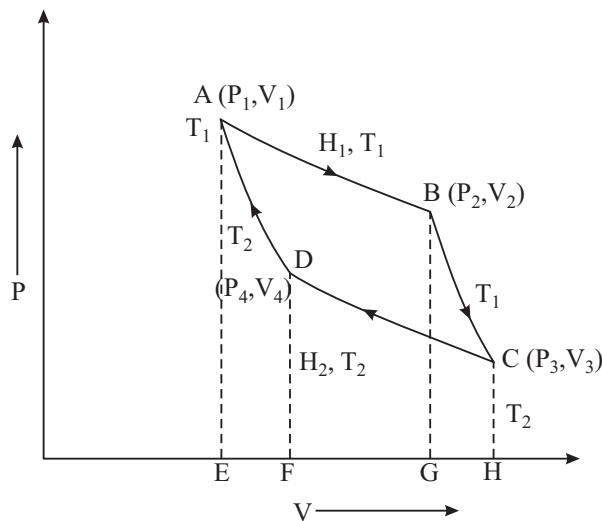
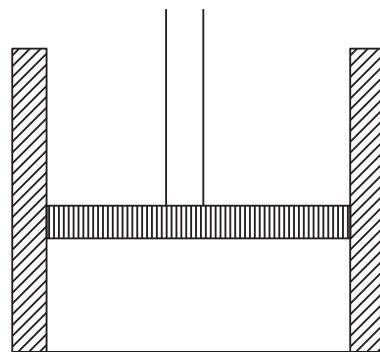

Fig. 11.4 : Indicator diagram of Carnot cycle
Fig. 11.5 : The cylinder with working substance
In Carnot cycle, the working substance is subjected to four operations : (a) isothermal expansion, (b) adiabatic expansion, (c) isothermal compression and (d) adiabatic compression. Such a cycle is represented on the P-V diagram in Fig. 11.4. To describe four operations of Carnot's cycle, let us fill one gram. mol. of the working substance in the cylinder (Fig. 11.5). Original condition of the substance is represented by point A on the indicator diagram. At this point, the substance is at temperature T_1 , pressure P_1 and volume V_1 .
- (a) **Isothermal expansion :** The cylinder is put in thermal contact with the source and allowed to expand. The volume of the working substance increases to V_2 . Thus working substance does work in raising the piston. In this way, the temperature of the working substance would tend to fall. But it is in thermal contact with the source. So it will absorb a quantity of heat H_1 from the source at temperature T_1 . This is represented by the point B. At B, the values of pressure and volume are P_2 and V_2 respectively. On the indicator diagram (Fig. 11.4), you see that in going from A to B, temperature of the system remains constant and working substance expands. We call it **isothermal expansion process**. H_1 is the amount of heat absorbed in the isothermal expansion process. Then, in accordance with the first law of thermodynamics, H_1 will be equal to the external work done by the gas during isothermal expansion from A to B at temperature T_1 . Suppose W_1 is the external work done by the gas during isothermal expansion AB. Then it will be equal to the area ABGEA. Hence
- (c) **Isothermal compression :** Remove the cylinder from the non-conducting stand and place it on the sink at temperature T_2 . In order to compress the gas slowly, increase the load (pressure) on the piston until its pressure and volume become P_4 and V_4 , respectively. It is represented by the point D on the indicator diagram (Fig. 11.4). The heat developed (H_2) due to compression will pass to the sink. Thus, there is no change in the temperature of the system. Therefore, it is called an isothermal compression process. It is shown
by the curve CD (Fig. 11.4). The quantity of heat rejected (H_2) to the sink during this process is equal to the work done (say W_3) on the working substance. Hence
- (d) **Adiabatic compression :** Once again place the system on the non-conducting stand. Increase the load on the piston slowly. The substance will undergo an adiabatic compression. This compression continues until the temperature rises to T_1 and the substance comes back to its original pressure P_1 and volume V_1 . This is an adiabatic compression process and represented by the curve DA on the indicator diagram (Fig. 11.4). Suppose W_4 is the work done during this adiabatic compression from D to A. Then